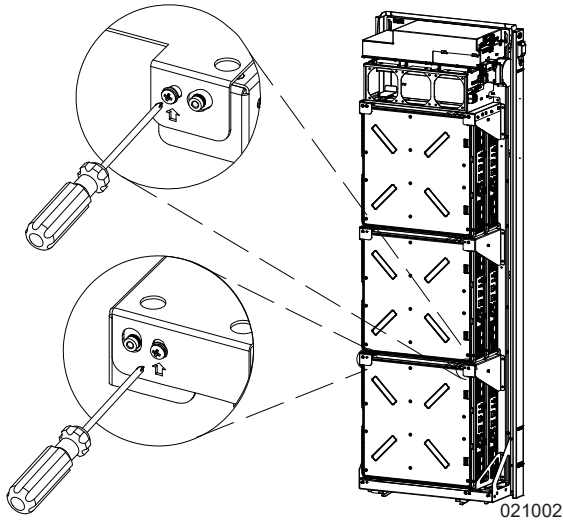

Figure 4-20. Installing Module Spacer (3 of 3)
3. See Figure 4-20. Secure spacer with two M4x8 mm star bit T20 screws and tighten to 13 in-lbs (1.47 Nm).